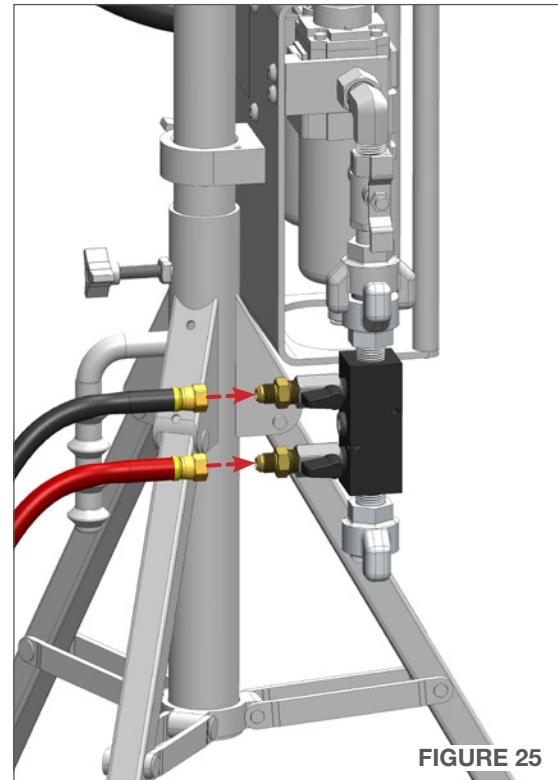

FIGURE 25
2. Using a small adjustable end wrench, fasten the two 3/8" air supply lines to the AK 140 Manifold Assembly. The color coding does not apply to the Air Knife accessory and the supply lines may be installed in any order. (**Figure 25**)